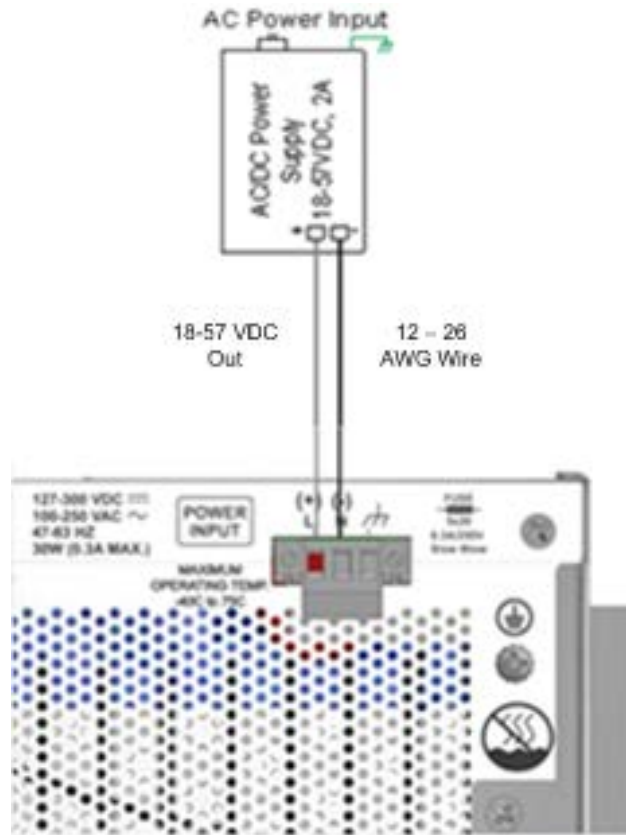

Figure 12: Properly Setup Power Configuration to the Switch
3.	Verify that the wiring to the 'primary' of the switch is connected correctly, as shown in Figure 12.